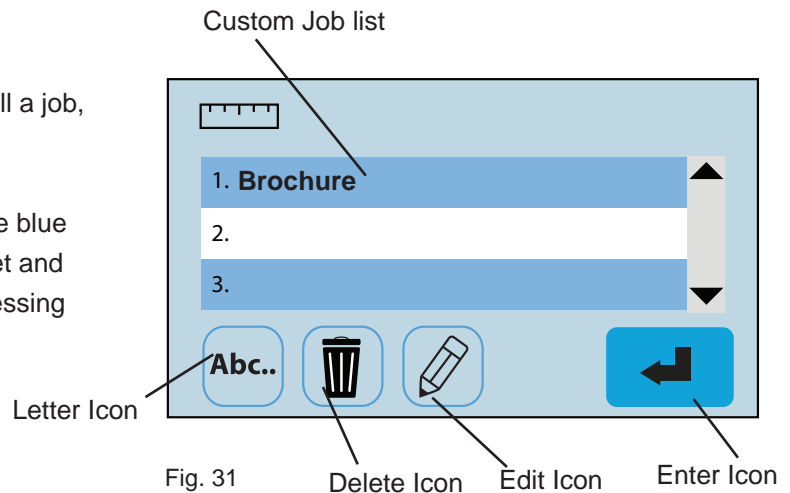
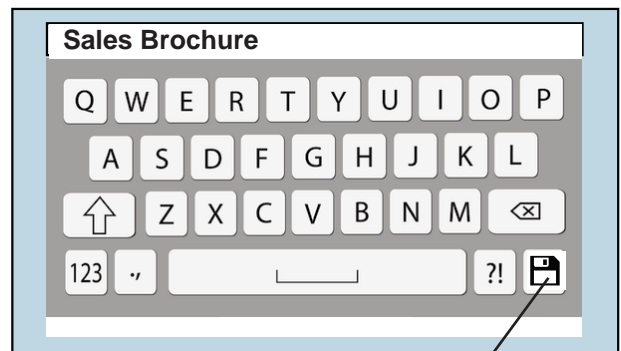
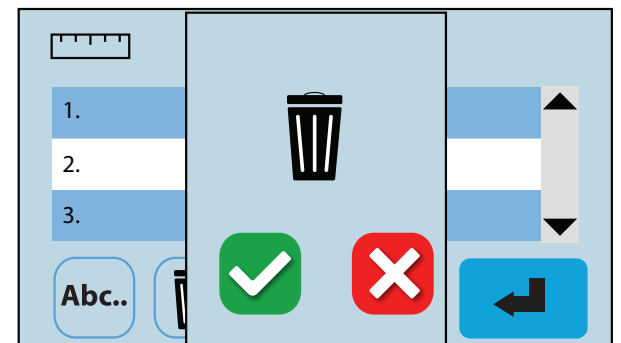
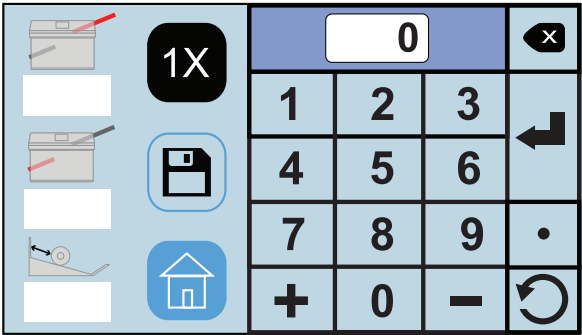

Fig. 31
Fig. 32
Fig. 33
Fig. 34
To recall select the job from the list and press the blue enter button  (Fig. 31). The fold will be set and then will return to the home screen to start processing the job.
3. To rename a job, select the job from the list and press the letter icon  (Fig. 31). Use the keypad to change the name and press the save icon in the lower right corner (Fig. 32).
4. To delete a job, select the job from the list and press the delete icon  (Fig. 31). On the confirmation screen press the green box with the check to confirm the deletion or press the red box with the X to cancel the deletion (Fig. 33).
5. To edit a previously saved job, select the job from the list and press the edit icon  (Fig. 31). From the fold setup screen use the same process as setting a custom fold to edit the job settings (Fig. 34). See page 13 for measuring guidelines.